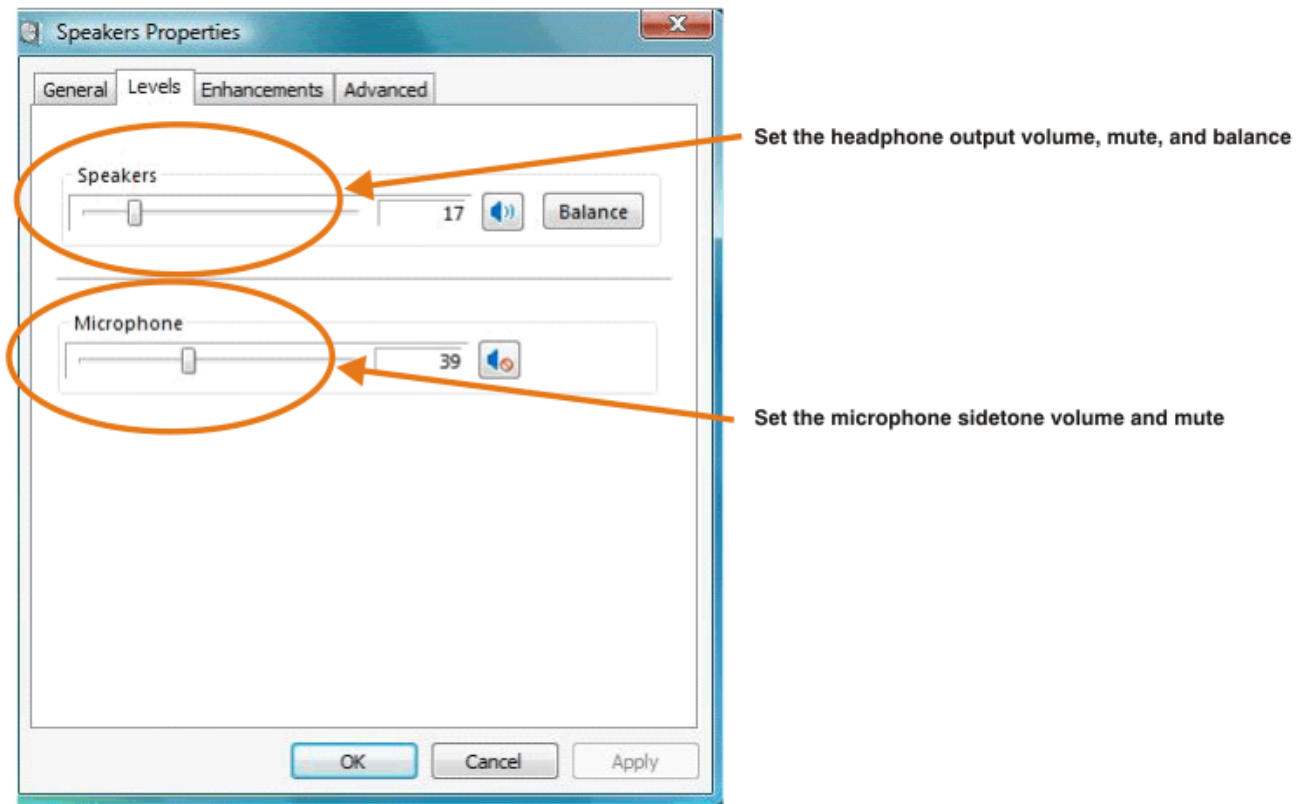

Figure 3-3. Speakers Properties—Levels Tab (Windows)
2. Open the speaker properties of the USB audio codec from the Playback options and select the *Levels* tab, as Figure 3-3 illustrates.